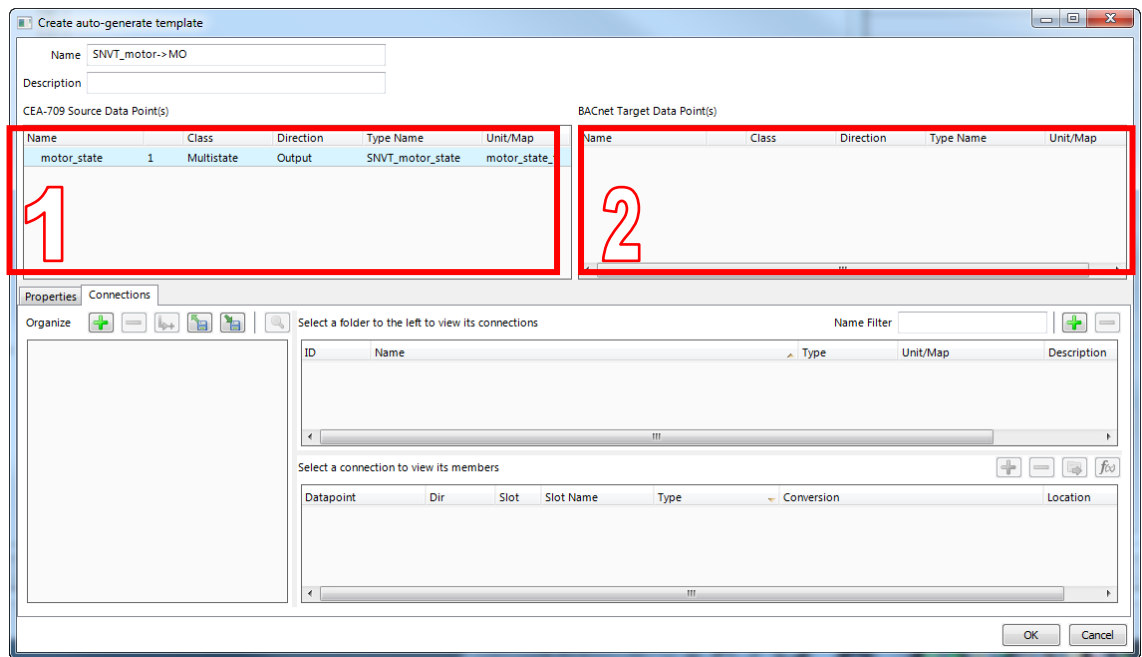

Figure 50: Auto-generate template editor.
3. The auto-generate template editor opens as shown in Figure 50. It contains two data point lists. The left-hand (denoted '1') list is pre-filled and contains the selected source data points. They are locked and cannot be modified. The right-hand list (denoted '2') is intended for creating the desired target data points.